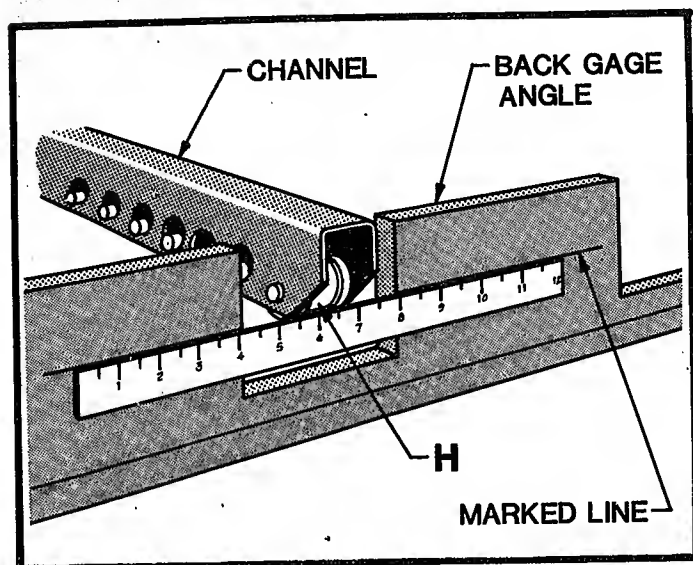

FIGURE 117
10. Position and clamp top edge of a 12" scale to passline mark on face of back gage angle at first channel at one end of shear. See Figure 117. If necessary, adjust front of the